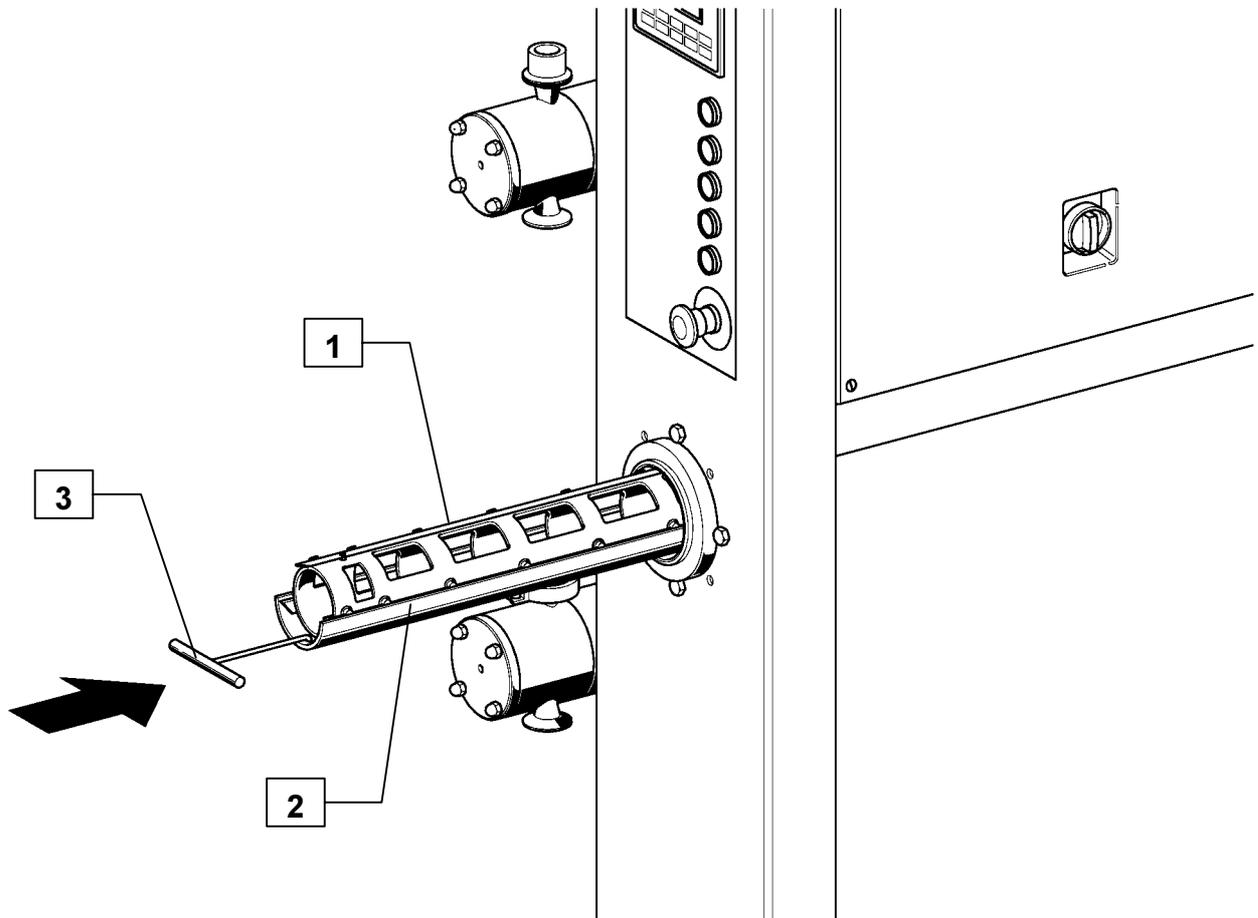

**Fig. 7-14 – Dasher disassembly**
- 7) Remove and replace the gasket (Fig. 7-14 pos. 1) positioned on the rear part of the dasher (Fig. 7-14 pos. 2) taking care not to squash or cut it. It is a good habit to lubricate the gasket with some vaseline.